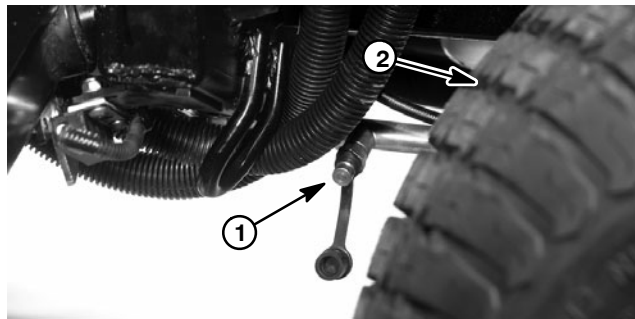

Figure 16
3. Connect a 10,000 psi gauge to traction circuit test port for function to be checked (Fig. 16).